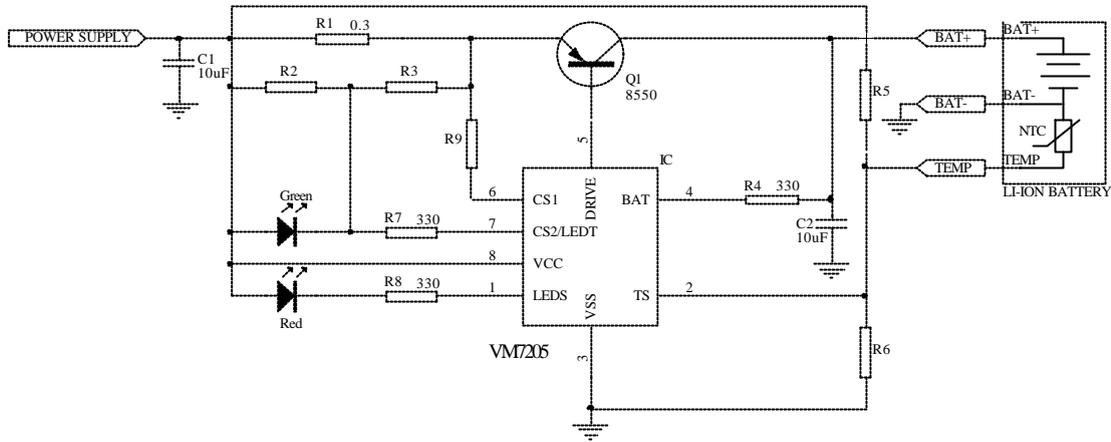
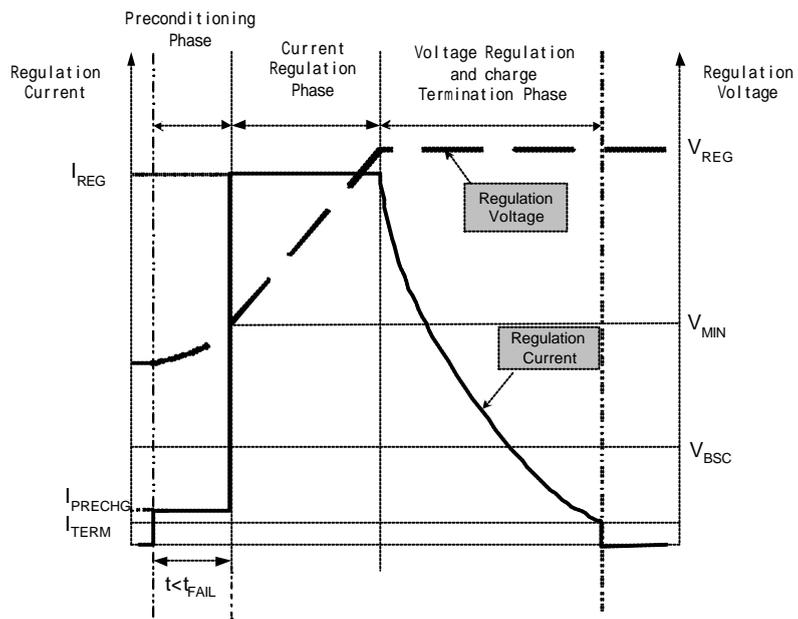

Figure 3 Li-ion/Li-Pol Charger Using a PNP Pass Transistor
Figure 4 Typical Charge Profile
2. Please use application circuit schematic in Figure 3 and Figure 5.
The VM7205 is an advanced linear charge controller for single Li-Ion or Li-Pol applications . Figure 3 shows the schematic of charger using a PNP pass transistor. Figure 4 is a typical charge profile. Figure 5 shows the schematic of a charger using P-Channel MOSFET. Figure 6 is an operational state diagram.
Charge qualification is based on battery voltage and temperature. If the battery voltage is below the precharge threshold V_{MIN} , the VM7205 uses precharge to condition the battery. The conditioning charge current I_{PRECHG} is adjustable with an external resistor R9 shown in Figure 3 and Figure 5. R9 is connected between CS1 pin and the emitter of external PNP or source of external PMOS. There is also an on-chip 5.1K resistor connected between CS1 pin and VCC. During precharge stage, the voltage drop between VCC and CS1 pin is V_{CSPRE} , so the precharge current is set to be
Let's analyze Fig. 3, considering R2 is in parallel with LED Green, in addition, after finishing charging, R3 is in parallel with LED Green as well (R1 is very small so we can neglect its effect), therefore, both R2 and R3 cannot be too small or LED Green will be dim. Generally, we choose R2 and R3 over 3k . In order to determine the value of R2 and R3, we first find the equation between R2 and R3.
From Fig. 3, we can get: